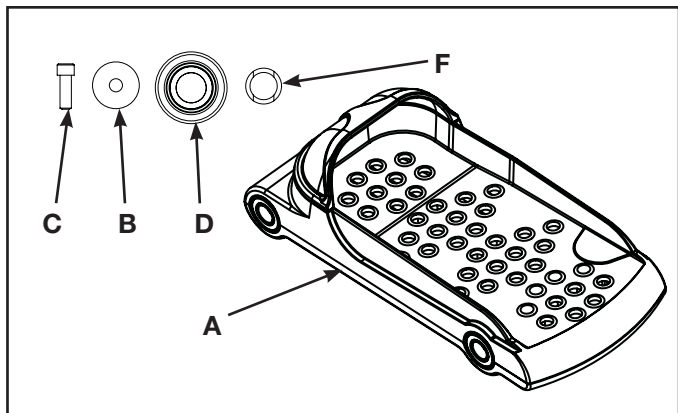

Figure 1 (left foot assembly)
2. Verify you received the following (see Figure 1):
- A. Left foot plate assembly (1), 610AK003 (this kit)
- B. Flat washer (4), HS307602
- C. SHCS .250-20 x .75 (2), HX622815
- D. Spacer (2), PL-17279
- F. Wave washer (2), HS427100